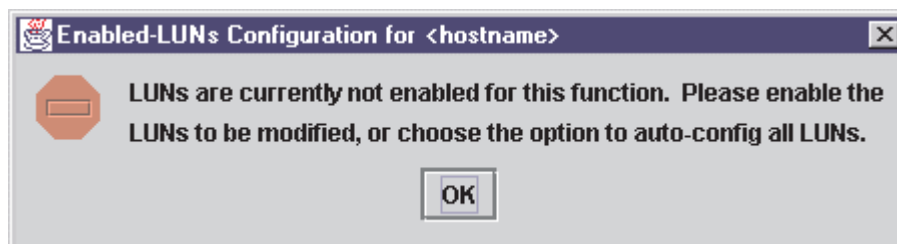

Figure 102. Enabled LUNs Configuration Error dialog window
- Click **Enabled LUNs Only** to configure only those LUNs enabled for load balancing across the paths within this device. If you clicked this option for a device with no enabled LUNs, the message shown in Figure 102 is displayed. Click **OK**.